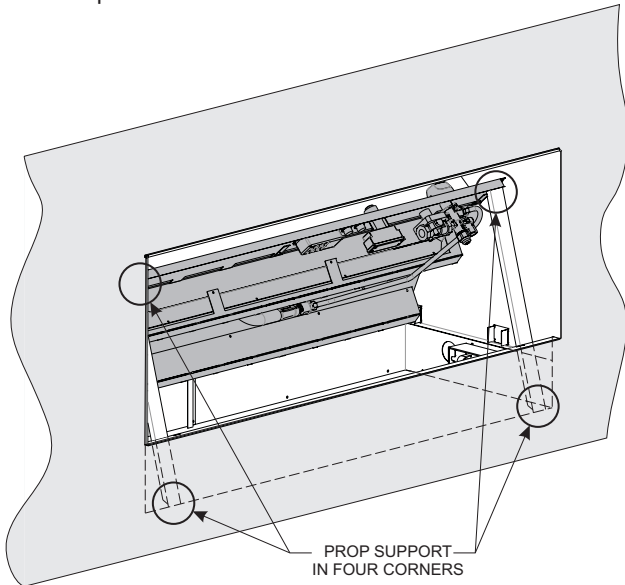

**Figure 18**
9. Remove two screws from front corners of the control panel with a Phillips head screw driver. See Figure 18.